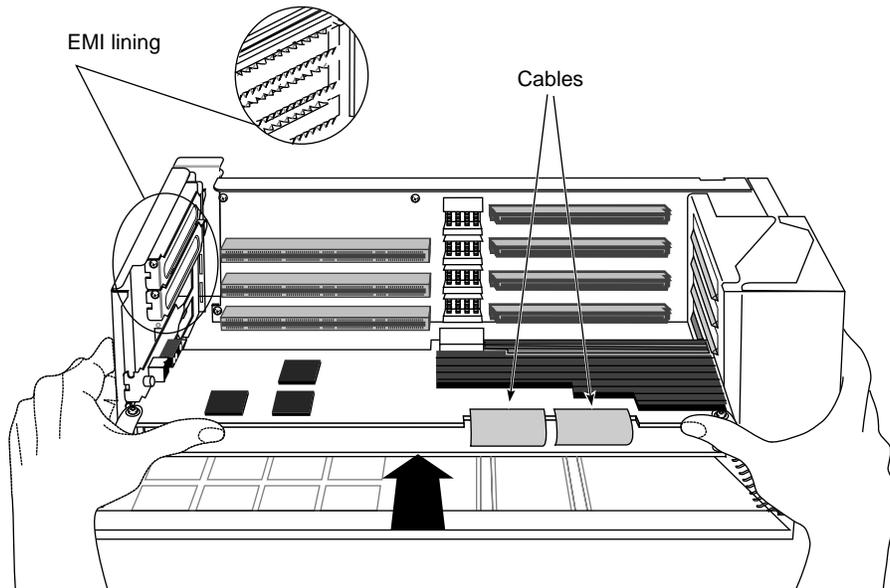

Figure 5-13 Inserting the High IMPACT Graphics Board Set
- Grasp the chassis with your fingers and push the board set into place with your thumbs. See Figure 5-13.
2. Place your High IMPACT board (that was in Slots A and B) in Slot C. See Figure 5-13.